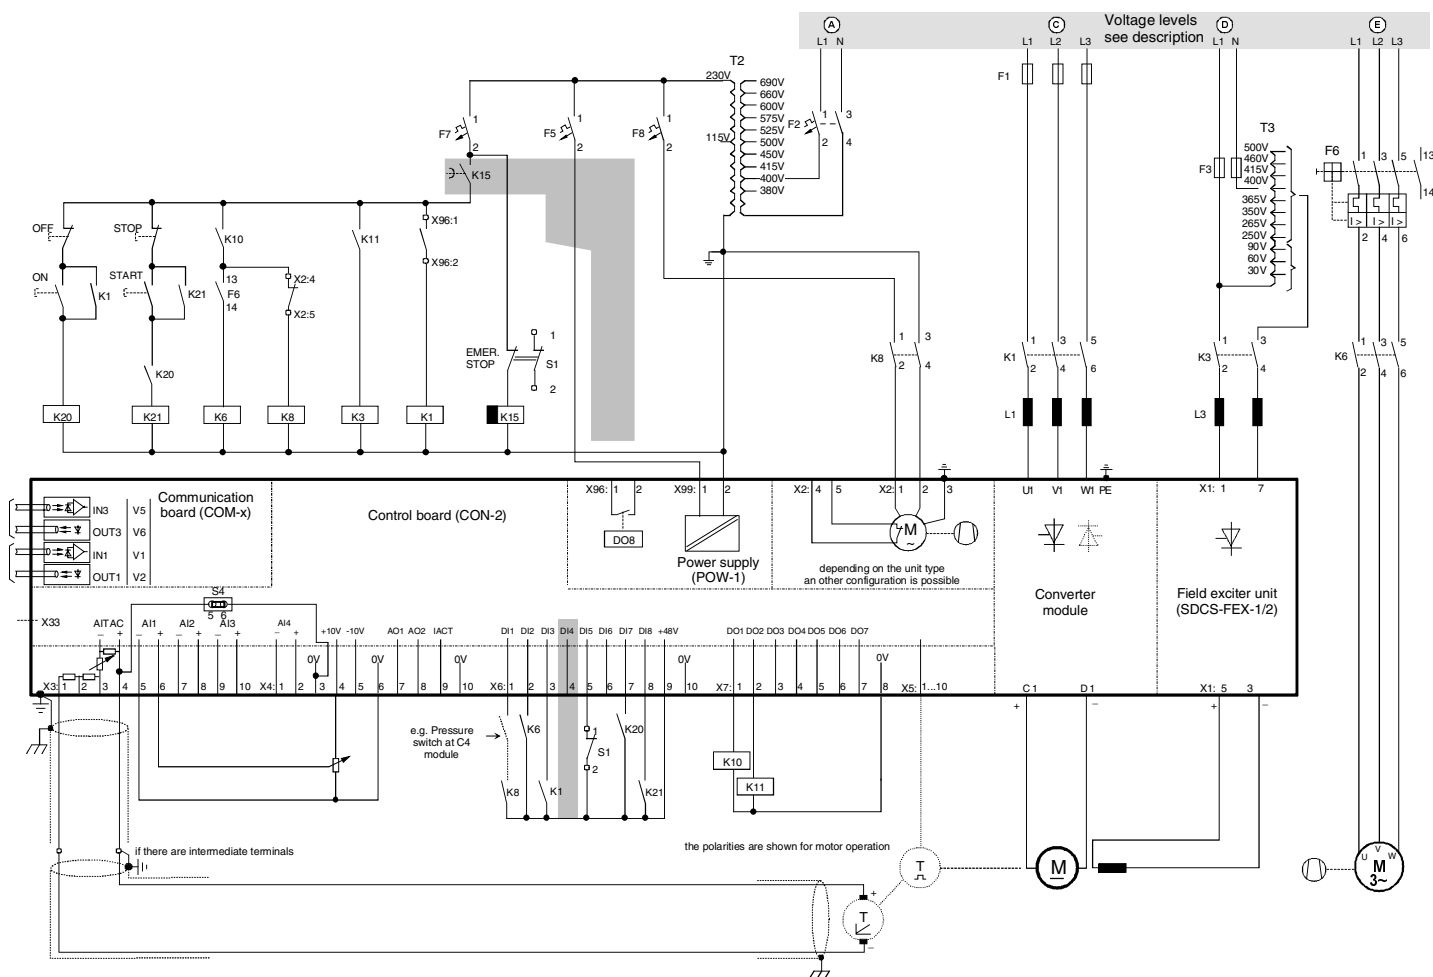
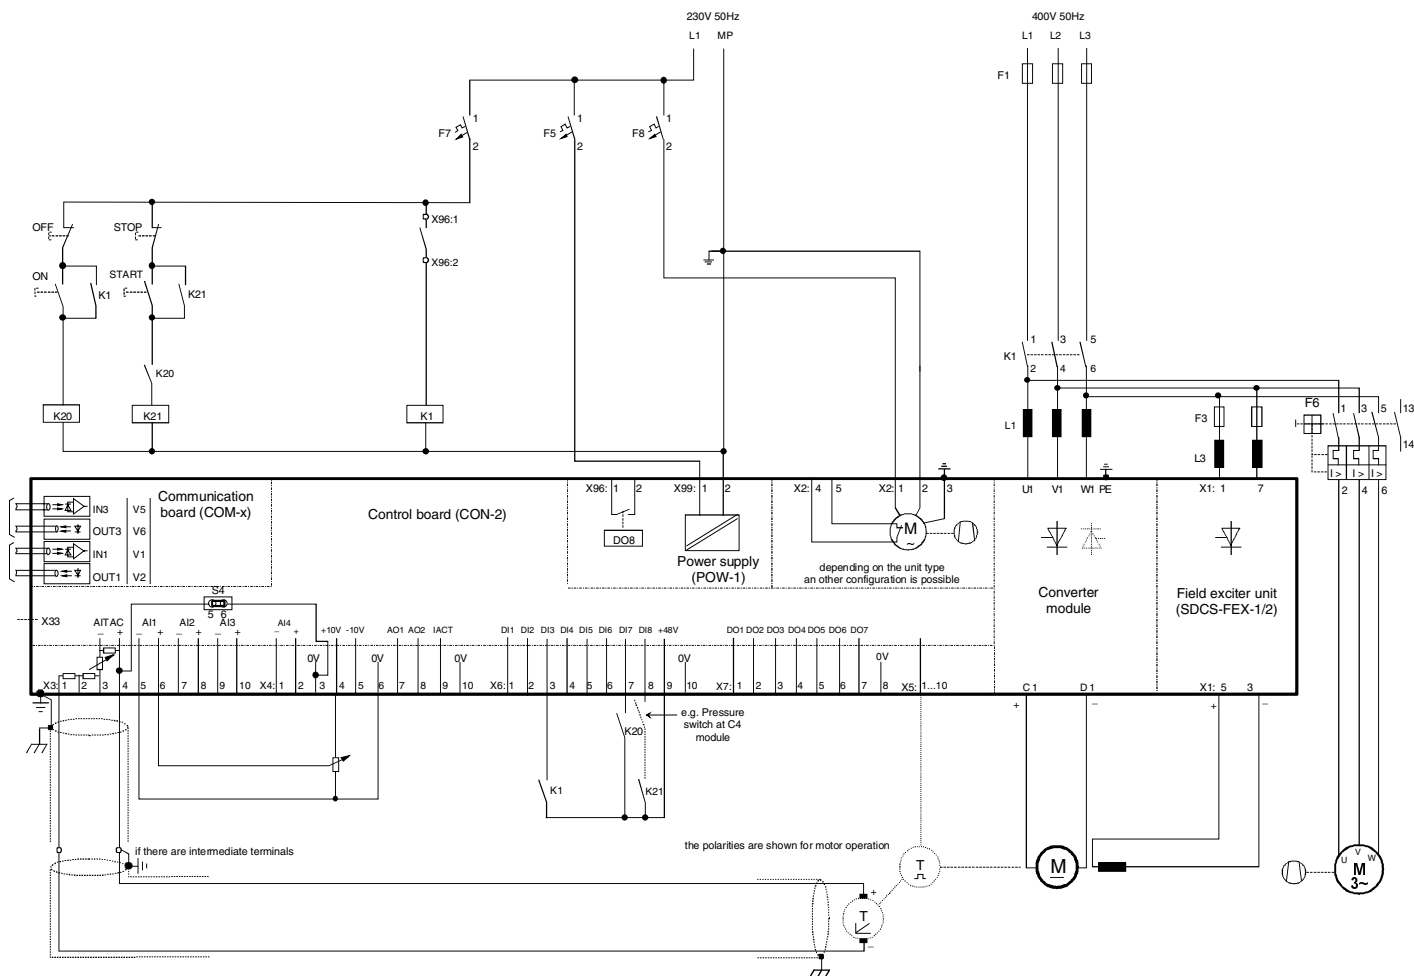

Figure 3.1/1: Standard drive configuration using an internal field
Figure 3.2/1: Drive configuration using the internal field with reduced external components
same as figure 3.1/1
This configuration is basically identical to the one shown at figure 3.1/1. Please check the sizing of F1 for the additional load like field and motor fan. All components are either selected for 230V or set to 230V to be able to combine them and to supply them by an auxiliary power supply. The different consumers are fused separately.
**a:** Generation of the ON/OFF and START/STOP command: same as figure 3.1/1
The main power contactor K1 is handled in the same way it was done at figure 3.1/1. The field and motor fan supply is picked up at the output of K1. So all 3 consumers are controlled in the same way.
This configuration is basically identical to the one shown at figure 3.1/1. In addition to figure 3.1/1 the field supply unit needs an electronic power supply, which is separately fused and taken from the 230V level, generated by T2. This field controller is controlled via a serial link, connected to X16: at the armature converter. The 690V primary tapping can be used together with this type of field supply!
The relay logic can be split into three parts as described in figure 3.1/1. Basically the logic shown at figure 3.2/1 could be used for this configuration. The size of the drive and/or its value may be a criteria to select the logic according to figure 3.1/1 or to figure 3.2/1 or a combination of both.
Basically according to figure 3.1/1. If the converter is supplied directly by a high-voltage converter transformer at point **C**, make sure that the high voltage switch is not opened, as long as field current flows. Additional conditions are to be considered during engineering of the drive (further information on request).
- a: Generation of the ON/OFF and START/STOP command: same as figure 3.1/1
- b: Generation of control and monitoring signals: Basically identical to figure 3.1/1.
- c: Stop mode beside ON/OFF and START/STOP: Basically identical to figure 3.1/1
This wiring diagram has been generated to show the configuration for big drives with preferably more than 1000 A for the armature supply and a 3-phase field supply. For such drives the converter construction type A5 or C4 is used. The basic idea is identical to figure 3.1/1. This chapter gives information how the converter has been adapted to comply with the **UL 508C** standard.